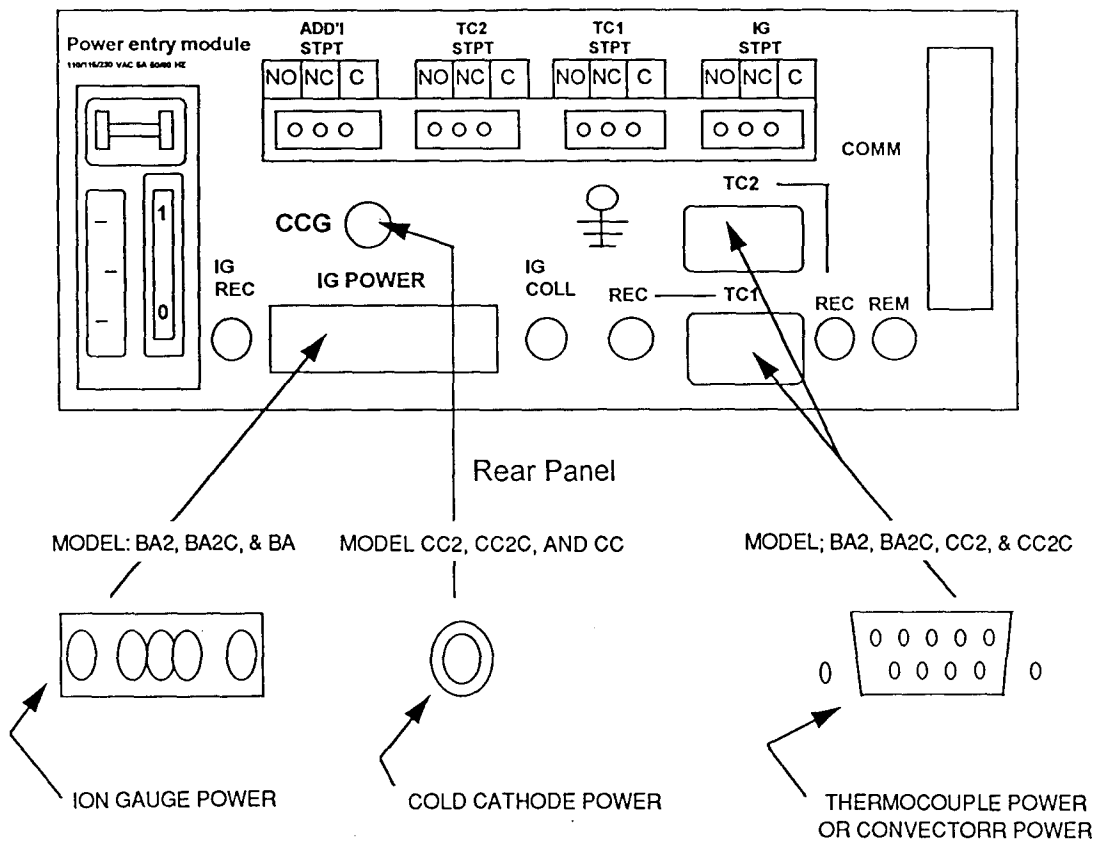

Figure 2-2. Rear Panel Connections
4. Mount the unit using the desired rack-mounting kit, then attach the appropriate external gauge and system cables. Refer to Figure 2-2 for rear panel connections and Figure 2-3 for mounting dimensions.